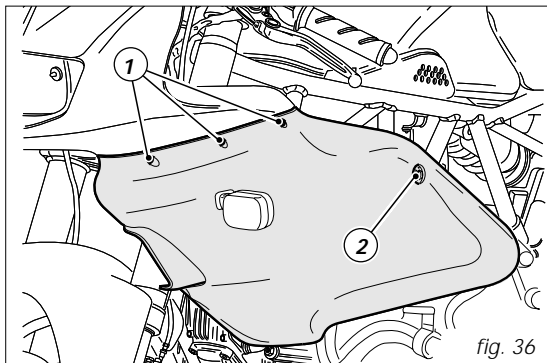

fig. 36
Unscrew the three screws (1, fig. 36 and 37) that hold each body panel to the headlamp fairing. Unscrew the screw (2) that holds each body panel to the frame.